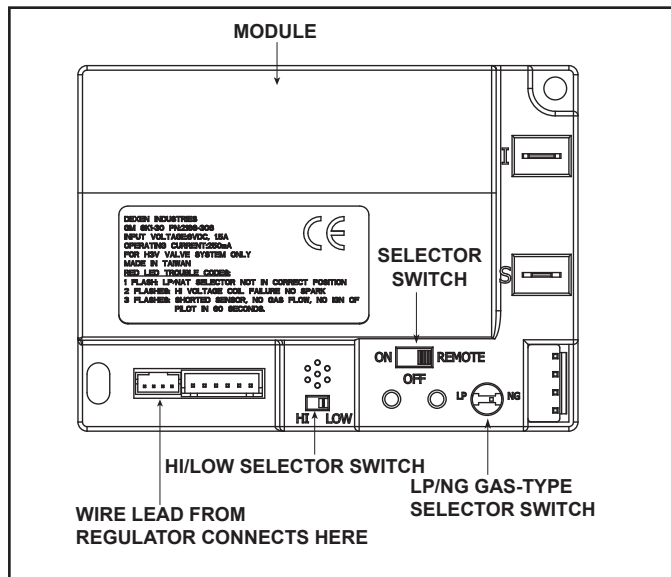

Figure 3.6 Control Module
- Slide the ON/REMOTE/OFF switch to the ON position. See Figure 3.6.
1. The control module has an ON/OFF/REMOTE selector switch that must be set. See Figure 3.6.
2. If using a wired wall switch with the module in REMOTE mode, the flame output can be adjusted with the HI/LO selector switch on the module. See Figure 3.6. Note that the flame HI/LO selector switch will become inactive once a remote control (RC300AU) is programmed to the control module. Note that the control module will always ignite the fireplace on HI and remain so for the initial 10 seconds of operation. If the HI/LO is switched to the LO position, the flame output will automatically drop to the lowest setting after the flame has been established for 10 seconds. After this 10 second period, the flame can be adjusted from HI to LO with the switch.
- Verify the ON/OFF/REMOTE switch is in the REMOTE position. Green LED light will blink three times and the control module will beep once 5 seconds later when ready. See Figure 3.6.